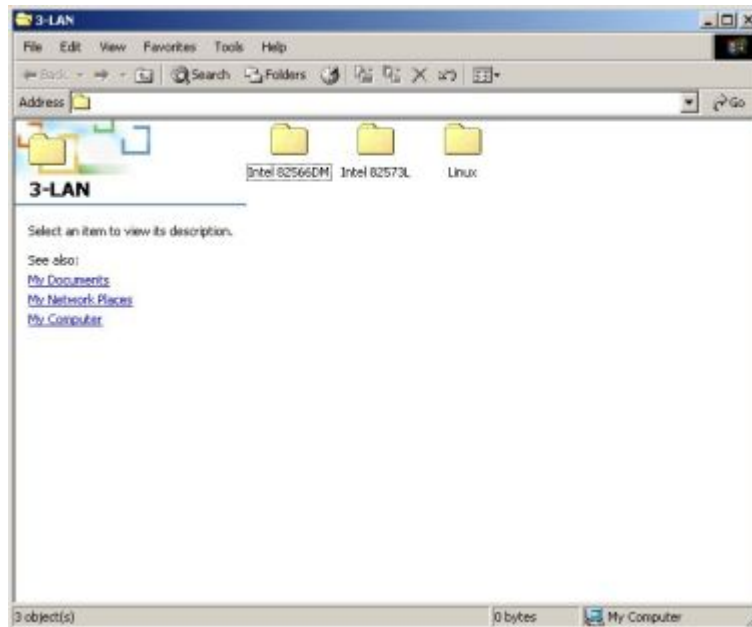

Figure 7-29: Intel® 82573 Driver Directory Icon
Step 2: The window in **Figure 7-29** appears.
Step 3: Click on the **Intel® 82573DM** directory icon in **Figure 7-29**.